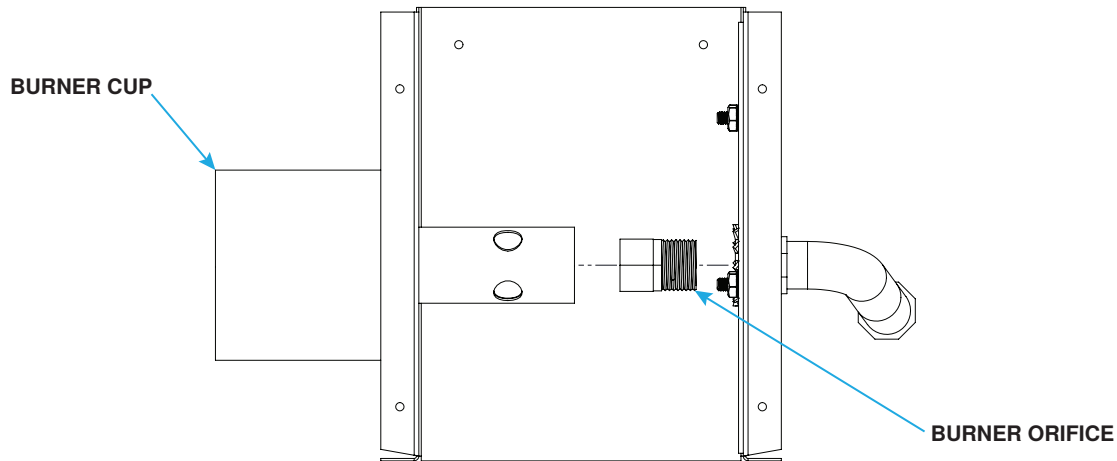

Figure 2. Typical Gas Manifold
- d. Using wrench, remove existing burner orifice (see Figure 2) from gas manifold.